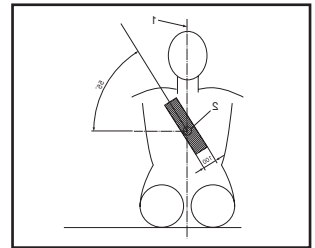

Figure 6
Backrest tubes (see fig. 6)
- The diagonal belt must be positioned across the user's shoulder and chest as shown in figure 6.